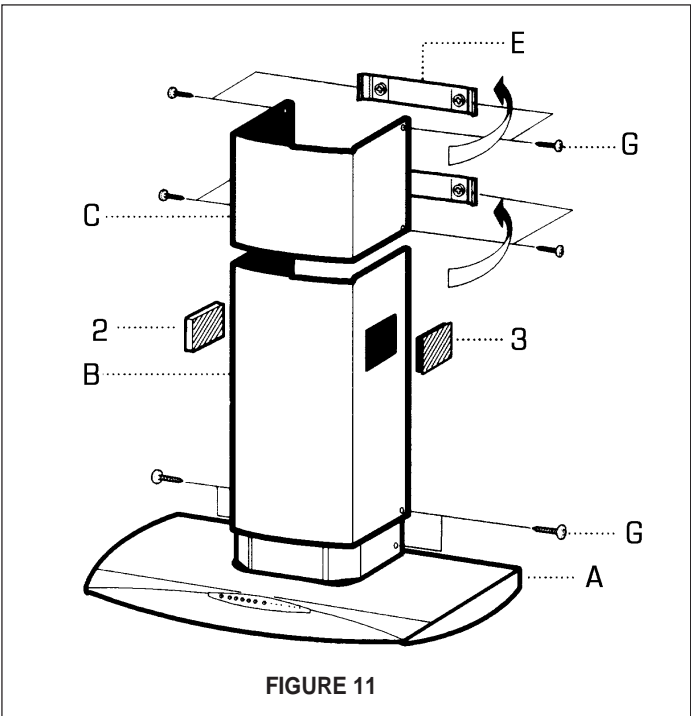

FIGURE 11
2. Install the **UPPER CHIMNEY COVER (C in FIGURE 11)** by slightly widening the two sides and hooking them behind the **CHIMNEY MOUNTING BRACKETS (E)**. Secure the sides to the **CHIMNEY MOUNTING BRACKETS** with the 4 **CHIMNEY SCREWS (G)**.
3. Install the **LOWER CHIMNEY COVER (B)** by slightly widening the two sides of the **LOWER CHIMNEY COVER** and hooking them between the **UPPER CHIMNEY COVER** and the wall making sure that it fits snugly. Secure the **LOWER CHIMNEY COVER** to the **CANOPY SECTION (A)** with 2 **CHIMNEY SCREWS**.